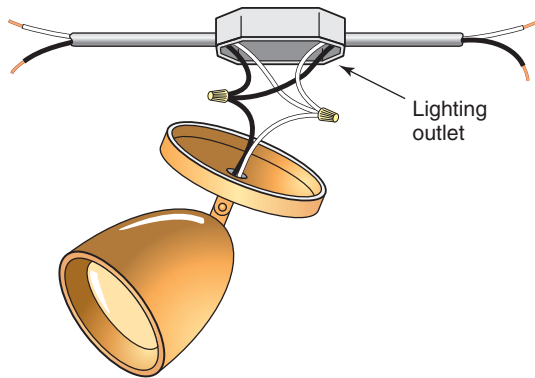

FIGURE 2-3 When a luminaire (lighting fixture) is connected to the branch-circuit wires, the outlet is called a *lighting outlet*. (Delmar/Cengage Learning)
- A **lighting outlet** is *An outlet intended for the direct connection of a lampholder or luminaire.* See Figure 2-3.